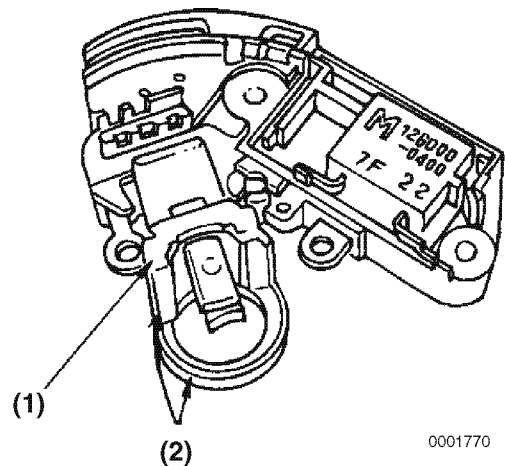

Figure 11-23
5. Make sure that the housing fits into the groove (**Figure 11-23, (2)**) on the reverse side of the brush holder cover (**Figure 11-23, (1)**).